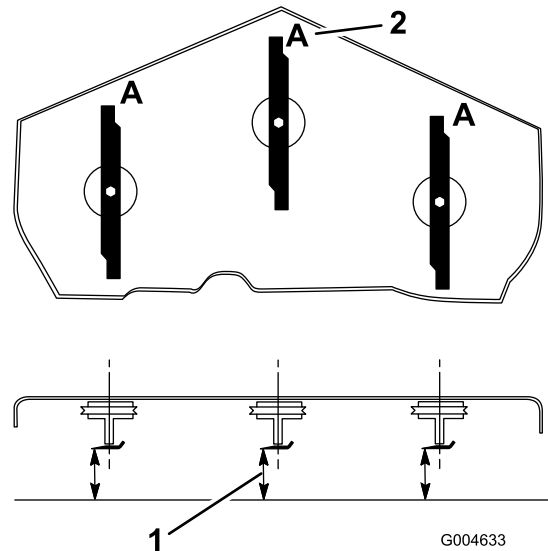

Figure 69
3. Rotate the blades until the ends face forward and backward (Figure 69). Measure from a level surface to the cutting edge, position A, of the blades (Figure 69). Note this dimension.